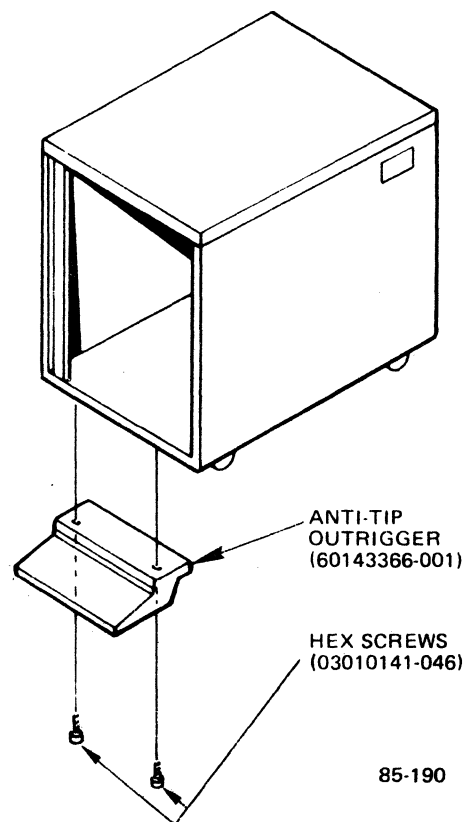

Figure 2-8. Anti-Tip Outrigger
4. Locate the anti-tip outrigger kit (60134360-004). Install the two hex screw caps to the anti-tip outrigger, then install the anti-tip outrigger to the cabinet as shown in Figure 2-8. Tighten the screws into the cabinet so that the front of the cabinet rests on the anti-tip outrigger and not on the casters.